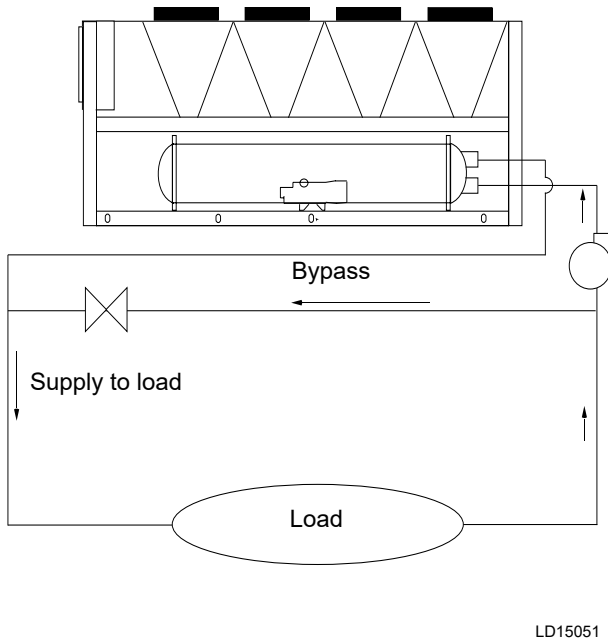

Figure 11 - Suggested Layout for Applications with a Flow Rate Greater Than the Evaporator Maximum Allowable Flow Rate
* See Figure 11 on page 44 for flange dimensions.